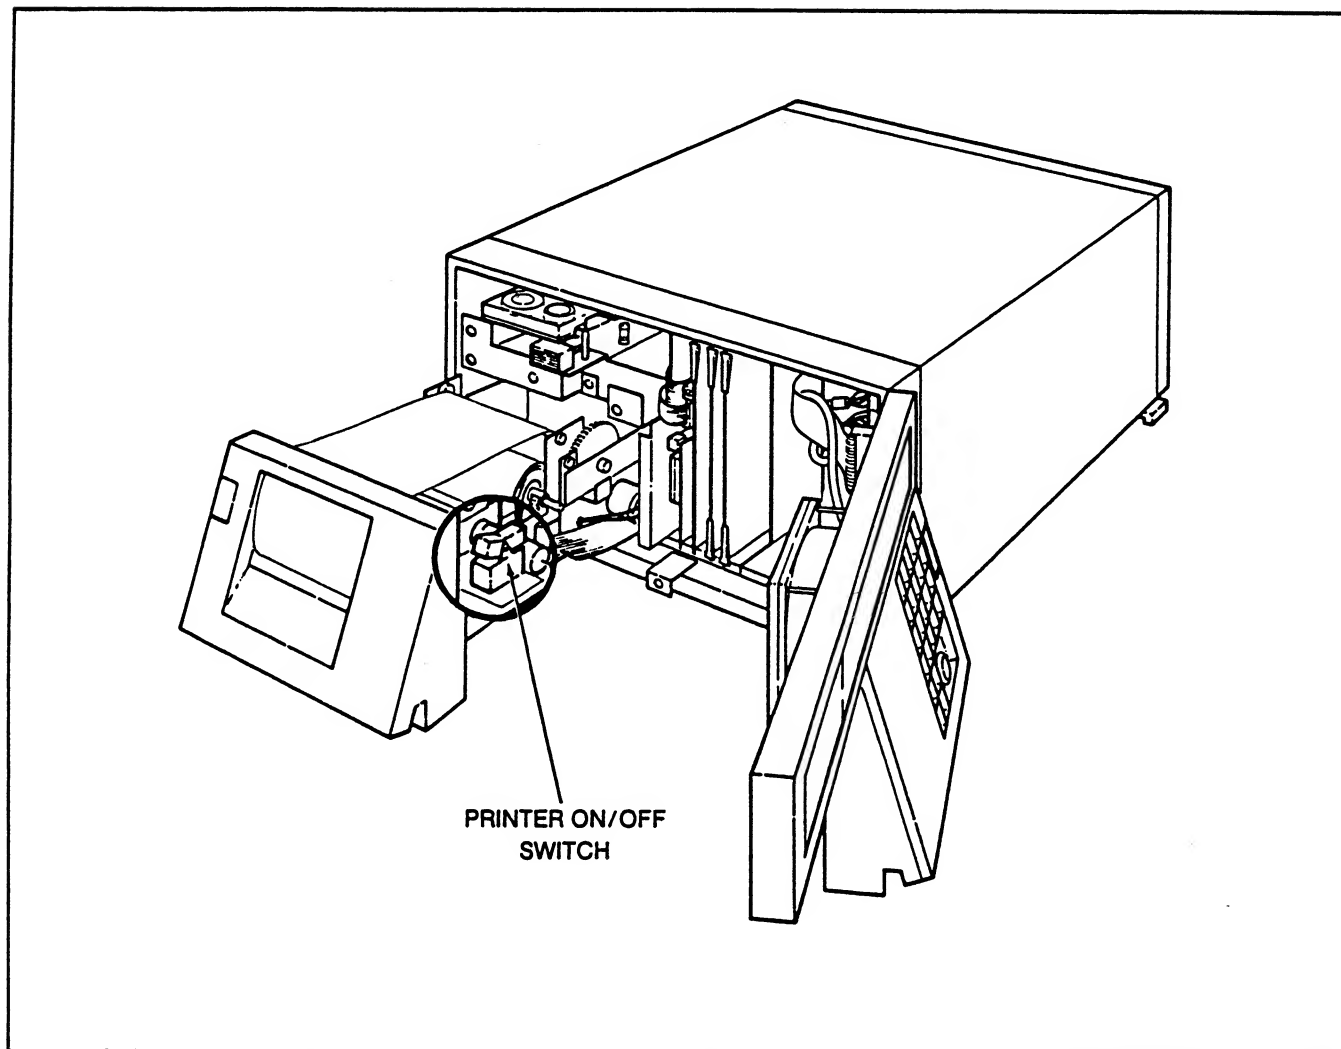

Figure 5-1. Printer On/Off Switch Location (2280A shown)
2. Pull out the Printer assembly and verify that the PRINTER switch is in the ON position (refer to Figure 5-1).